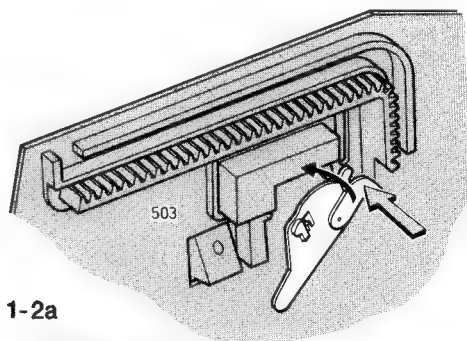
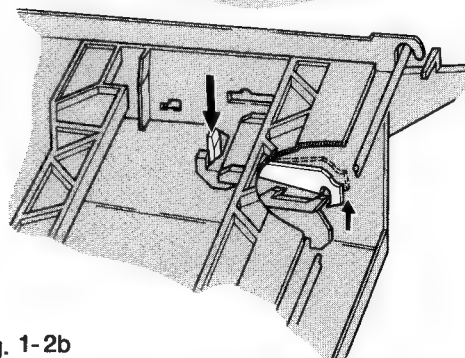

Fig. 1-2a
Fig. 1-2b
Reassemble in reverse order having made certain that the deck is in the eject position, and wriggle the lever pos. 230 through stop toward you (Fig. 1-2a). During moving the lift inwards press the locking bracket down Fig. 1-2b.